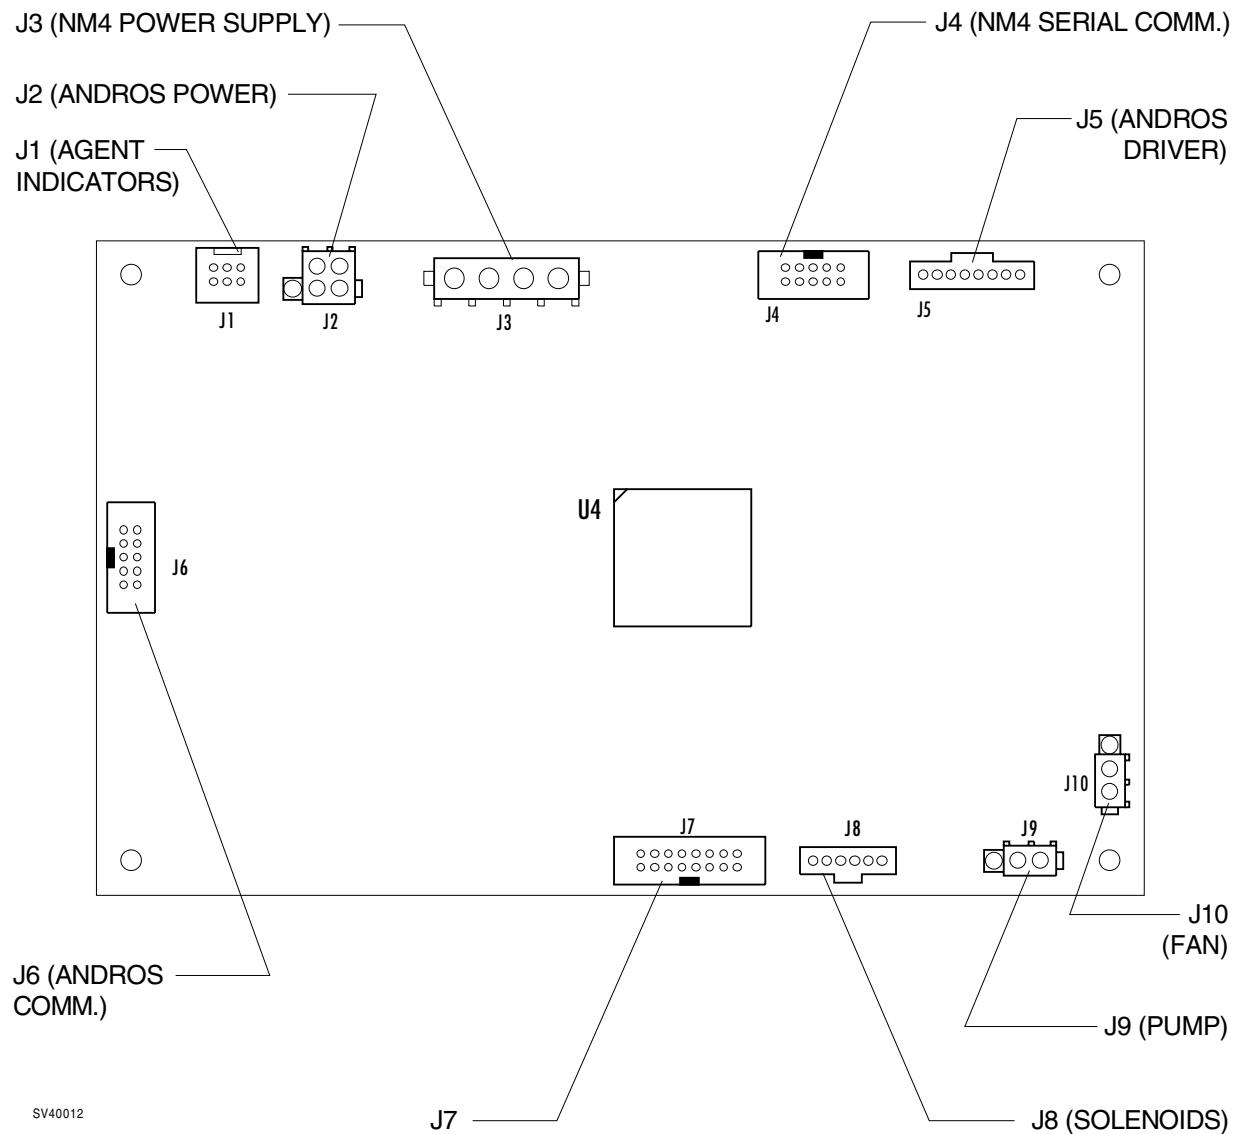

Figure 4-30A: MULTISPEC HC11 PCB ASSEMBLY CONNECTIONS (MODEL 4610)
- 4.30.6** Disconnect the cables from J1, J3 and J4 on the HC11 PCB assembly. See Figure 4-30A.
- 4.30.24.1** Disconnect the following cables and wire harnesses from the HC11 PCB assembly (ref. Figure 4-30A):